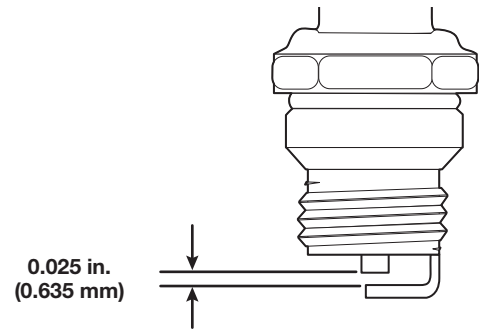

Fig. 19
4. Use a feeler gauge to set the air gap at **0.025 in. (0.635 mm)** (Fig. 19).